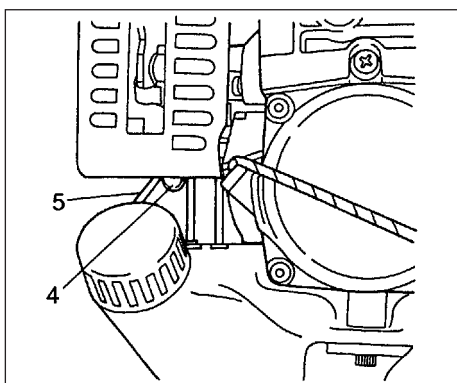
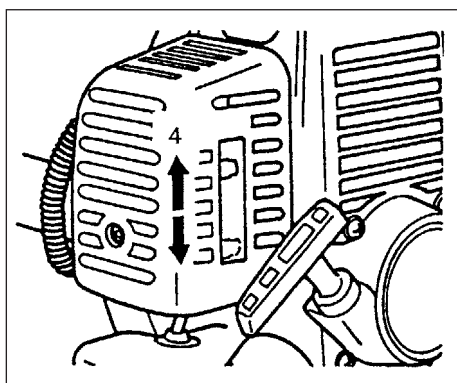

Fig. 2-2C
Fig. 2-3
* Push priming bulb (4) several times so that fuel flows through return pipe (5) (if so equipped) (Fig. 2-2C)
2. With the safety trigger (2) pressed (if so equipped), pull throttle trigger and push throttle lock (3), then slowly release the throttle trigger first, then the safety trigger. This will lock the throttle in starting position.
3. Set choke lever to CLOSED position (4). (Fig. 2-3)